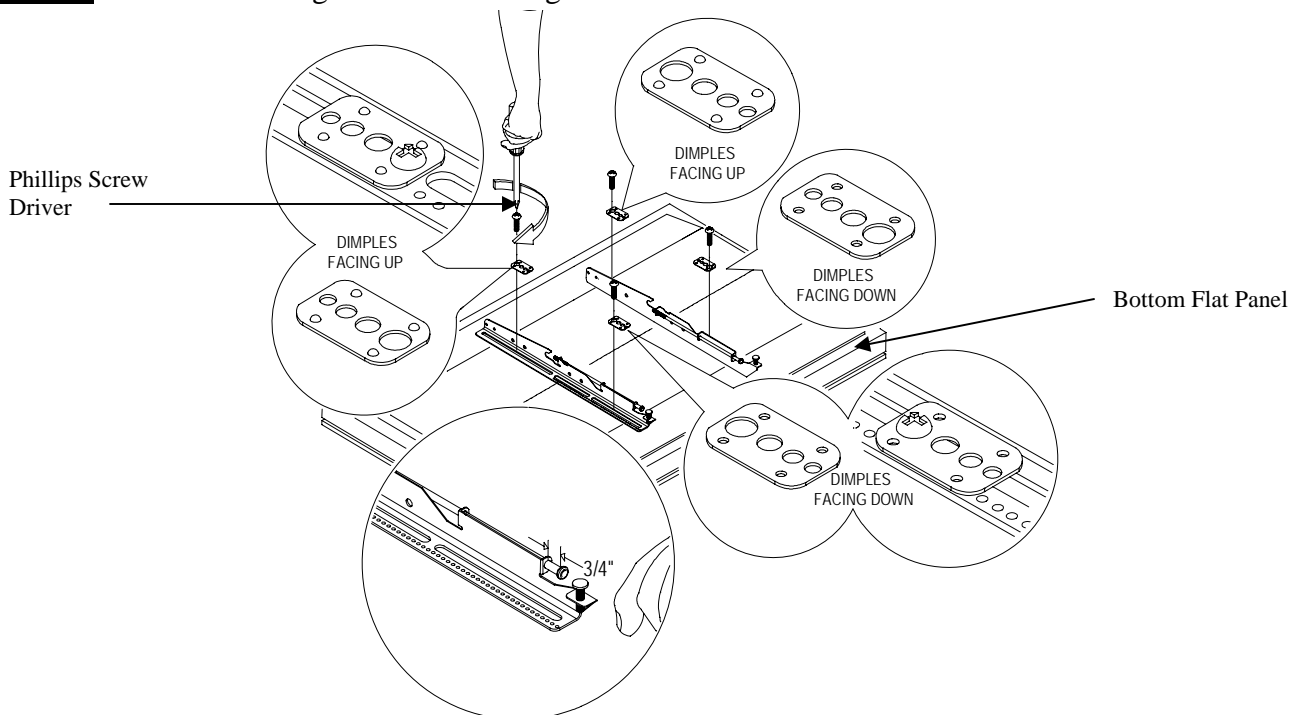

Figure 6. Griplate™ Attachment
NOTE: The dimples of the top plates have to be facing up and the bottom dimples must be facing down. Use (1) Griplate™ per mounting point (Figure 6).